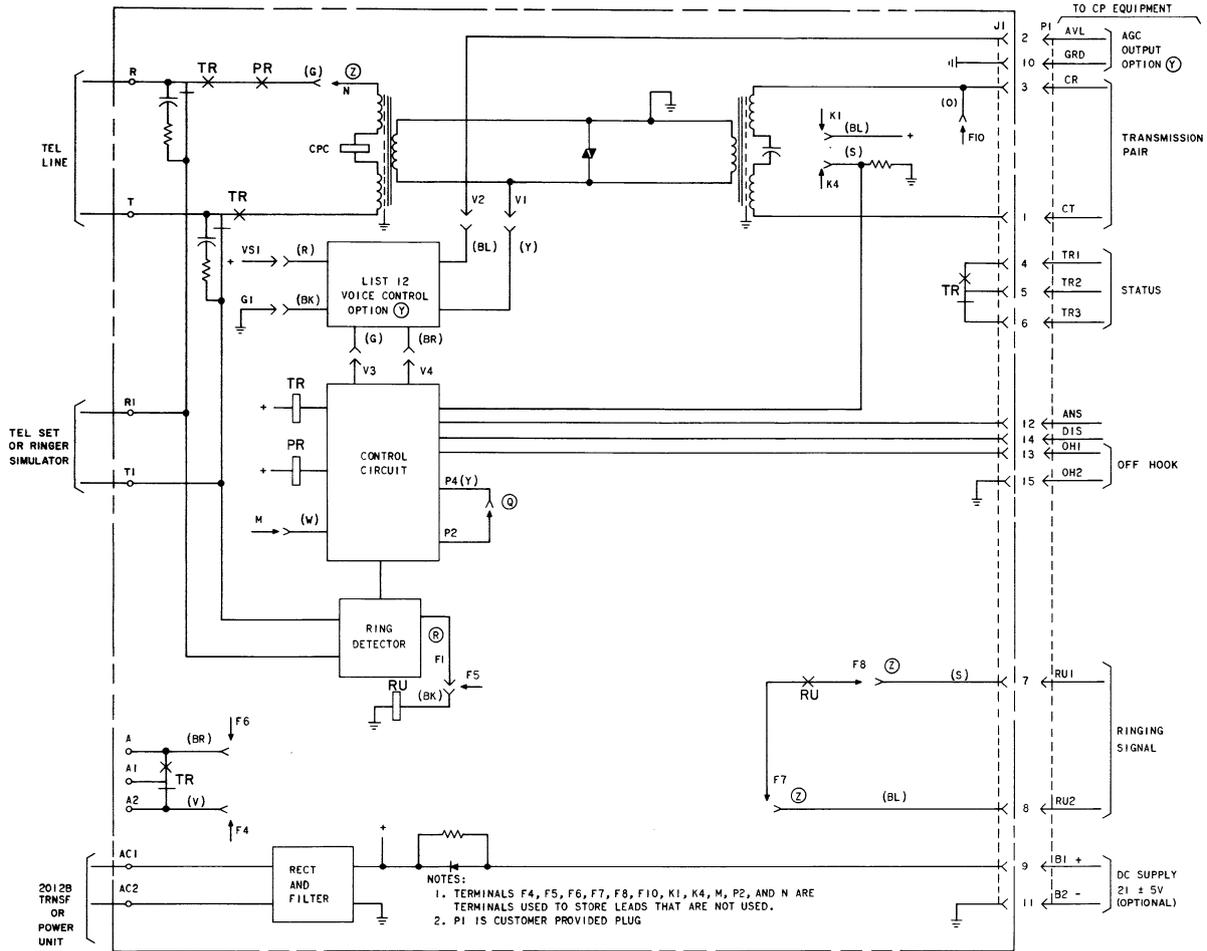

Fig. 8—KS-20721 Station Coupler, Simplified Schematic
- Wiring options and coupler connections are correct. (Refer to Table B and Fig. 8.)